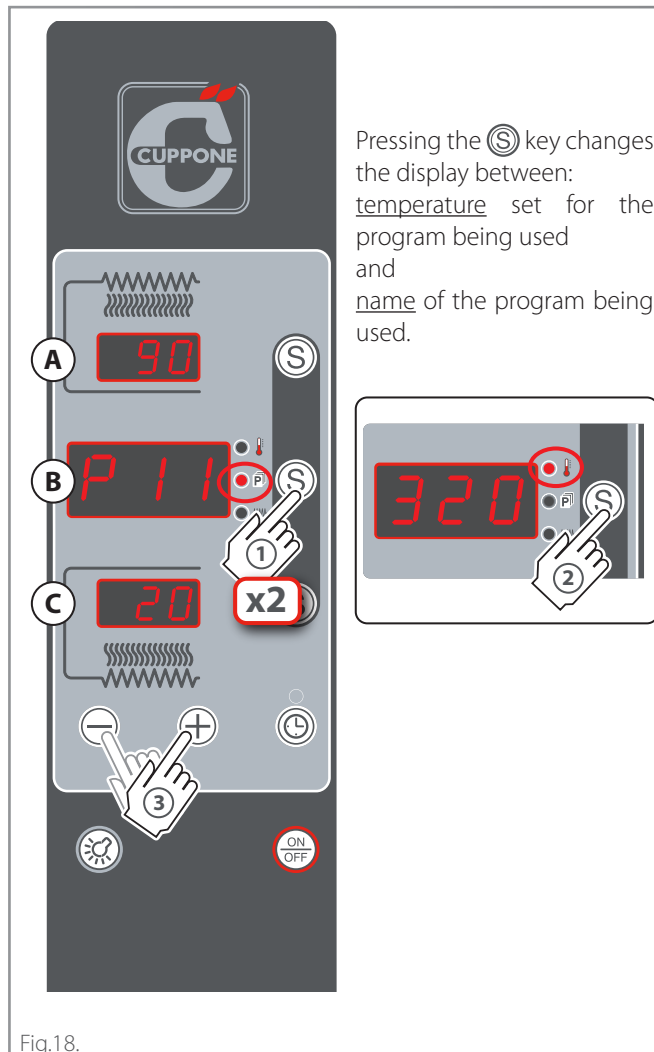

Fig.18.
See ▶ chapter “**Using a previously stored program**” on page 16 and ▶ Fig.18.
► Fig.18.
- ① Press the **(S)** key twice quickly: the program LED switches on **(P)**, the display **(B)** shows the program being used (e.g. P11) while displays **(A)** and **(C)** show the percentage of the elements set in that program.
- ② If you wish to know also the temperature set for the displayed program, press key **(S)** (the temperature LED will switch on **(T)**). To display the name of the program again, press key **(S)** again.
- ③ To select a different program, when display **(B)** shows the name of the program being used (e.g. P11), press the keys "+" and "-" to scroll the list of the 99 available programs.